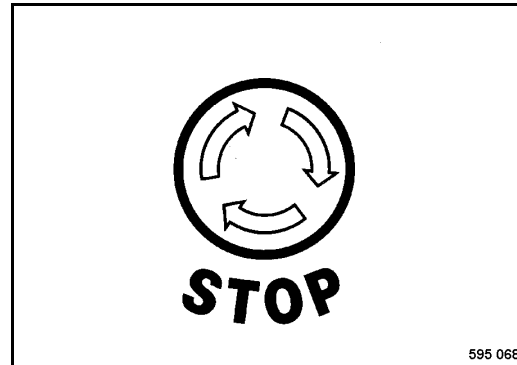

Fig. 87
- Press the button of the emergency stop switch (Fig. 87) completely down, it automatically locks in fully pressed position.